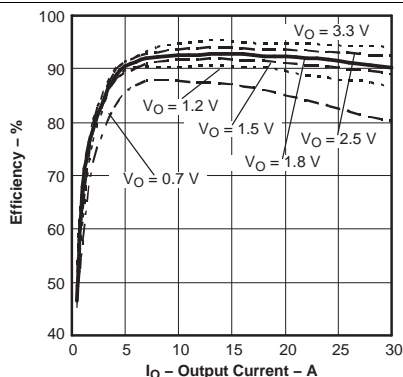
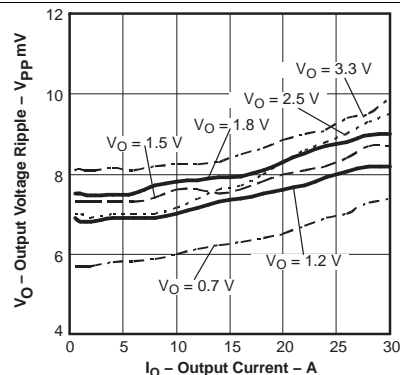
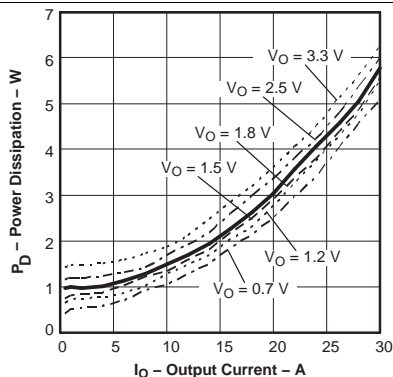

Figure 6. Efficiency vs. Output Current
Figure 7. Output Ripple vs. Output Current
Figure 8. Power Dissipation vs. Output Current
- (13) The electrical characteristic data has been developed from actual products tested at 25°C. This data is considered typical for the converter. Applies to Figure 6, Figure 7, and Figure 8.